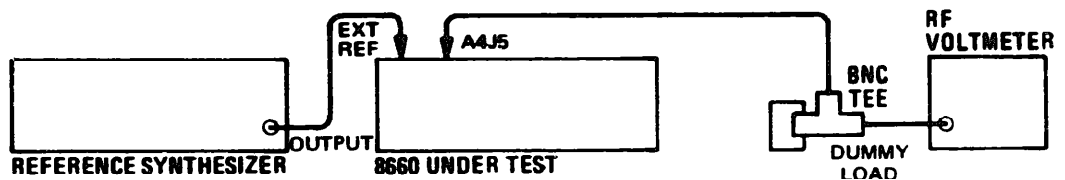

Figure 5-27b. A22A1 Adjustment Test Setup
1. Connect equipment as shown in Figure 5-27b